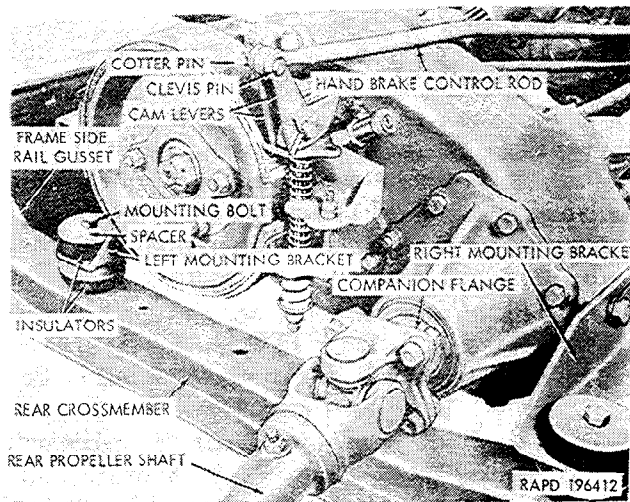

Figure 2-127. Transfer—rear view.
(1) Working from the underside of the vehicle, disconnect the propeller shaft from the two output shaft companion flange (L) and the input shaft companion flange (B) by removing the four nuts, lockwashers, and bolts that secure each propeller shaft yoke. Secure the propeller shafts to the frame to keep them off the floor.
(2) Disconnect the transfer control shifter lever rod (T) and the declutch shifter lever rod (U) at the transfer by removing the cotter pin that secures each rod to the shifter shafts (R and S), and disengage the rods.
(3) Disconnect the speedometer shaft (N) from the pinion retaining nut (Q).
(4) Remove the cotter pin and clevis pin that secures the handbrake control rod to the cam levers (fig. 2-127).
(7) Remove the four transfer mounting bolts (fig. 2-127). Move the transfer to the rear to clear the front cross member, lower the transfer, and remove it from underneath the vehicle. Remove the four spacers and eight insulators from the left and right mounting brackets (fig. 2-127).
(1) Install the eight insulators in the mounting brackets with the larger diameters of the insulator toward the brackets, and install an insulator spacer from the upper side through each pair of insulators (fig. 2-127).
(2) Position the transfer on the front cross member. Support the transfer in this position with jacks or blocking.
(3) Position the rear cross member under the frame side rail gussets, aligning the bolt holes in the crossmember with those in the gussets and mounting bolt spacers. Install the eight bolts from the upper side, and lockwashers and nuts to secure the crossmember (fig. 2-127 and 2-128). Tighten the nuts.
The intermediate propeller shaft (C, fig. 2-70) transmits power from the transmission to the transfer. The front propeller shaft (J, fig. 2-70) and rear propeller shaft (fig. 2-127) divert power from the transfer to the front and rear axles respectively. Complete interchangeability is provided on the roller bearings, bearing oil seals, bearing oil seal retainers, and snaprings for all universal joints; however, the journals and yokes of the intermediate propeller shaft are of greater width than those provided for the other two propeller shafts. Organizational maintenance operations include replacement of the propeller shafts and the universal joints or related parts. When replacing the rear propeller shaft, be sure to install the correct shaft for the vehicle involved, refer to paragraph 1-8k for the correct length.